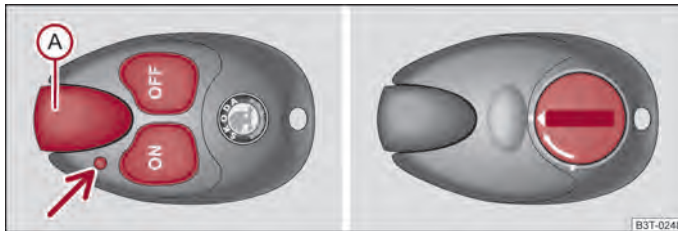

Fig. 94 Auxiliary heating: Radio remote control/bottom of the radio remote control with the battery cover
If the battery is properly charged, the effective range is up to 600 m. For switching on or off the auxiliary heating, hold the remote control vertically with the antenna  ⇒ fig. 94 towards the top. You must not cover over the antenna with the fingers or the palm of the hand. Obstacles between the radio remote control and the vehicle, bad weather conditions and a weaker battery can clearly reduce the range.
The warning light in the radio remote control ⇒ fig. 94 indicates after a keystroke if the remote control signal was received by the auxiliary heating and if the battery is adequately charged.
If the warning light of the radio remote control indicates a weak or discharged battery, ⇒ fig. 94, it must be replaced. The battery is located under a cover on the back of the radio remote control.
- Insert a flat, blunt object, such as a coin, into the gap of the battery cover, turn it against the direction of the arrow up to the mark, and unlock the cover ⇒ fig. 94 - right.